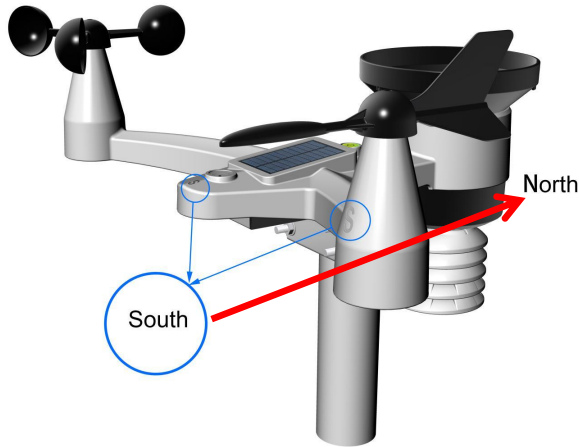

Figure 5
Step 1: There is a “S” indicator on the wind vane that indicates South, as shown in Figure 5. Check the wind directions with compass and Align this “S” marker in the direction of South.